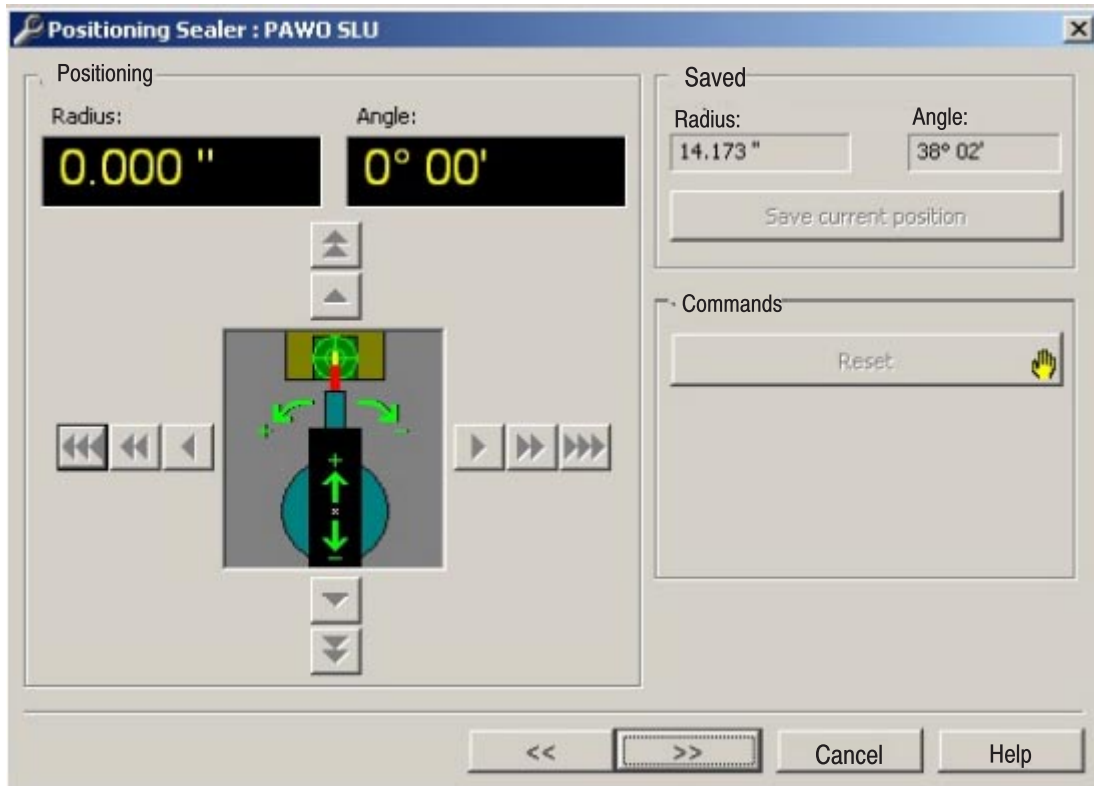

Figure 32
10. Reset the wire cutter. Refer to Figure 32.